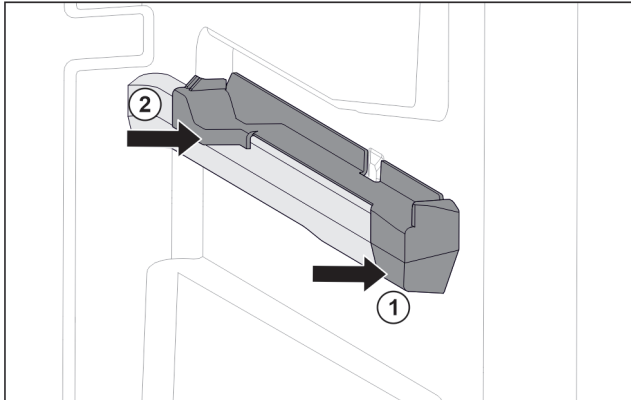

Fig. 63 Attachment on the right moulded rib
- ▶ Position attachment on moulded rib at the front. *Fig. 63 (1)*
- ▶ Press on attachment at the back. *Fig. 63 (2)*